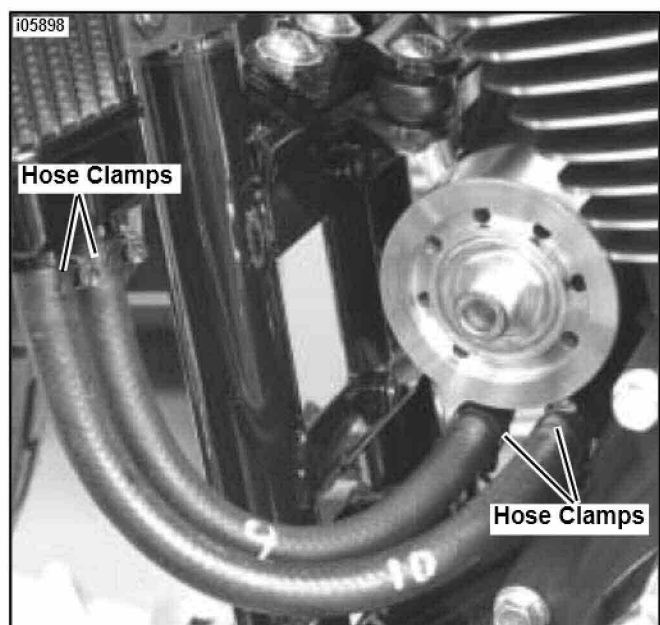

Figure 6. Install Oil Cooler Hoses
- See Figure 6. Using a worm drive clamp, install the 10 inch length of hose onto the rear 90 degree hose fitting (closest to engine). With another worm drive clamp, install the opposite end onto the left nipple of (as looking toward front of bike) the oil cooler. Adjust hose so that no kinking exists and tighten both hose clamps.